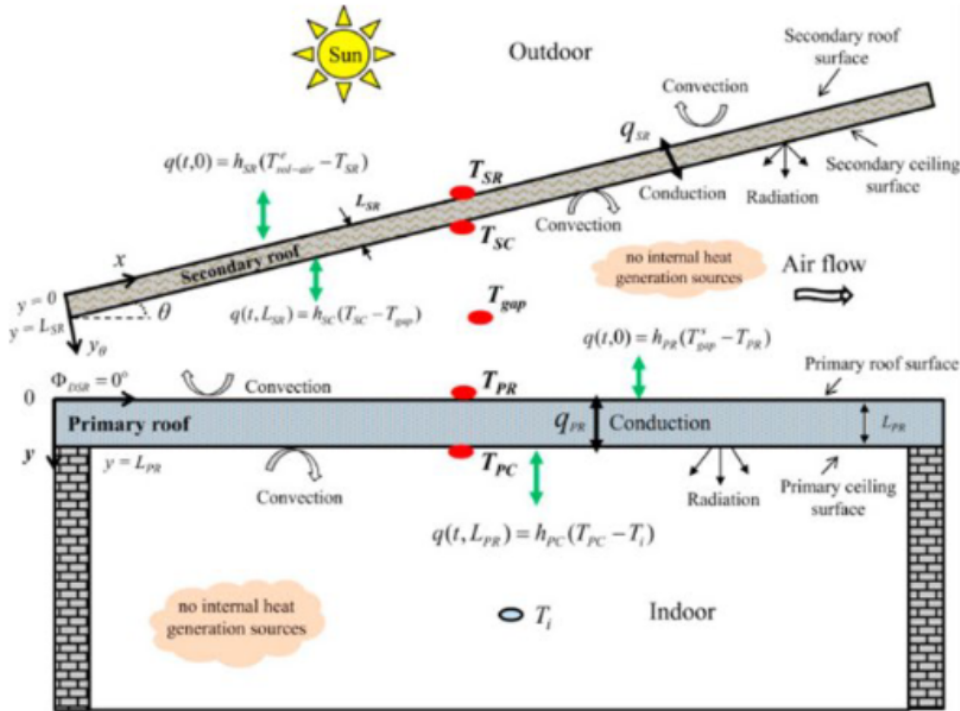
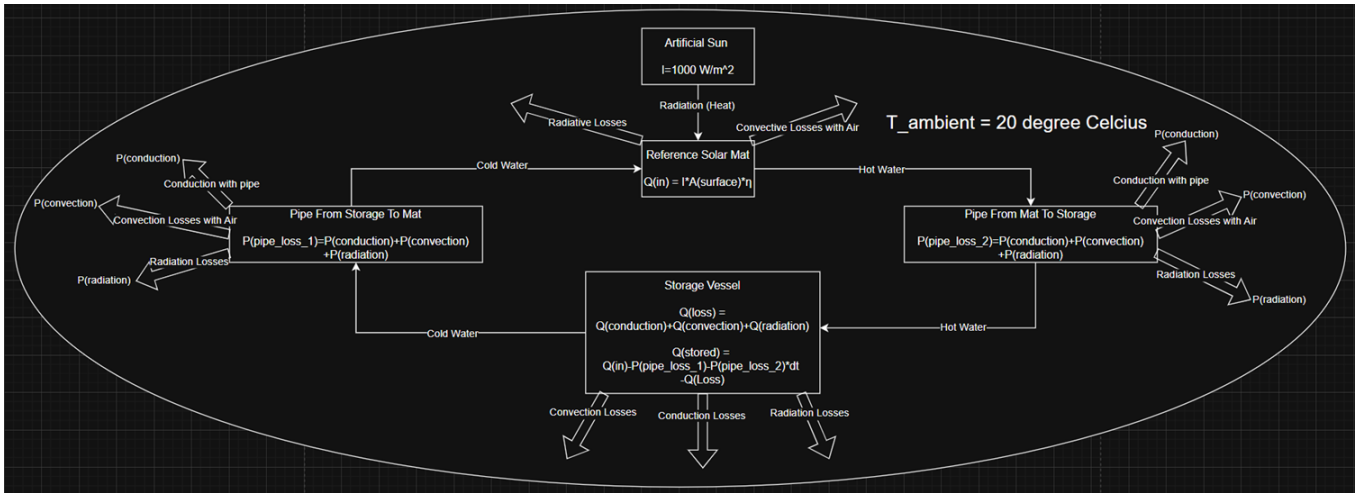

Figure 4: Reference Energy Flow Diagram (in project manual)
Figure 5: Final Energy Flow Diagram
- An energy flow diagram was made (as shown in fig. 5) based on the project manual and online reference ([1])
After discussions with Jasper, and using the energy flow diagram provided in the project manual as reference (shown in fig. 4), adequate modifications were made to include more visual cues, such as the power loss arrows pointing outwards, labelled with the heat loss mechanism. This new energy flow diagram can be seen in fig. 5